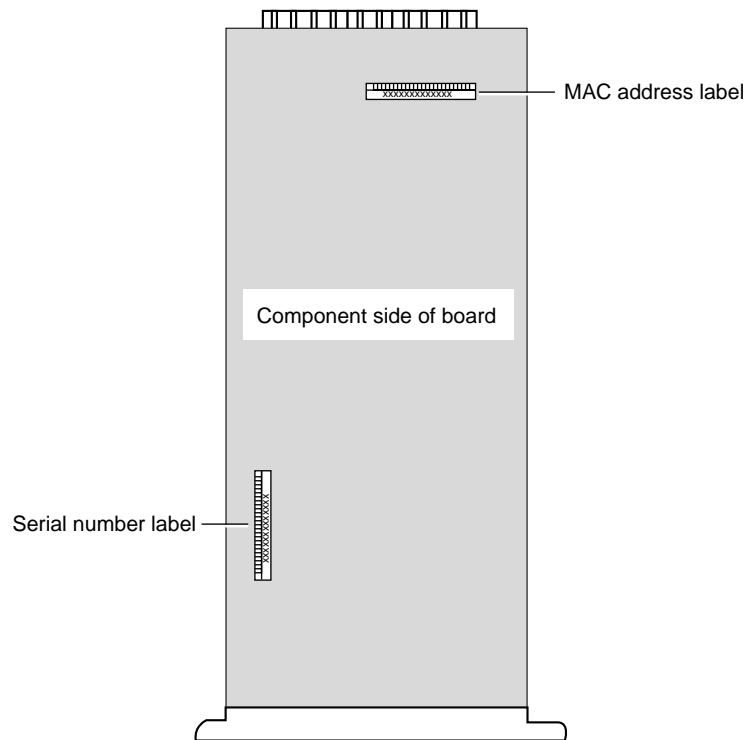

Figure 2-1 Serial Number on the HSS G.703 Module
- 4 Write down the serial number and the MAC address from the labels on the component side of the HSS G.703 board (see Figure 2-1).